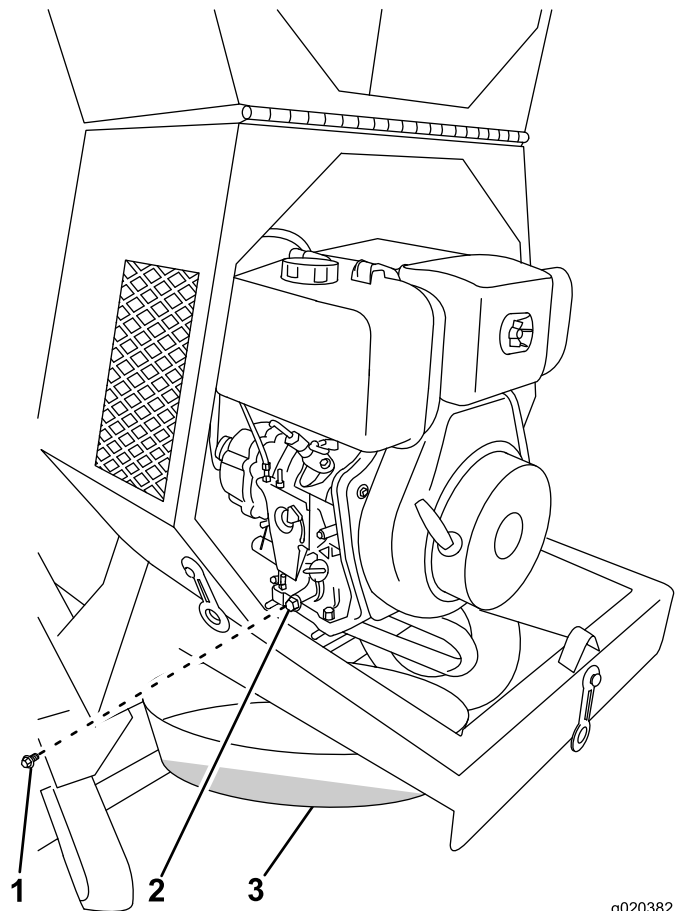

Figure 35
3. Remove the drain plug and catch the oil in the oil drain pan (Figure 35).
4. When the oil has drained completely, install the drain plug with a new washer (Figure 35).
2. Place a drain pan under the oil drain hole of the engine (Figure 35).